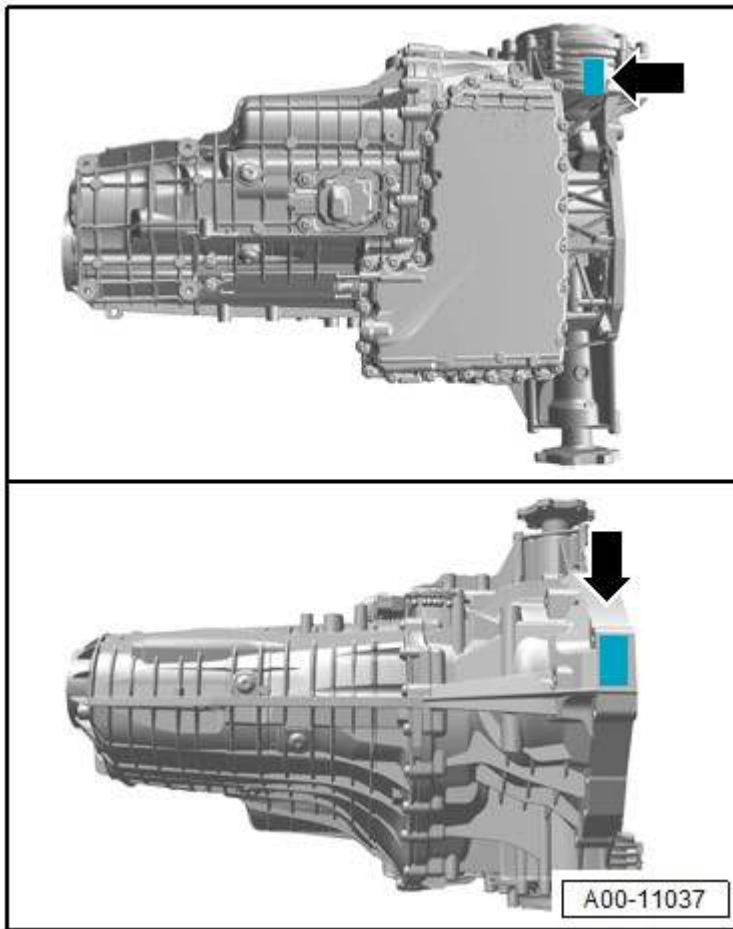

Figure 1. Locations of data stampings.
- Check one of the transmission data stamps which are located on the bottom of the front differential and the top of the bellhousing (Figure1).